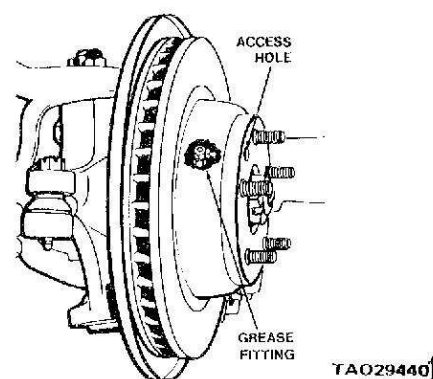

Figure 2-64. Aligning the Lube Fitting.
(13) Position the bearing retainer in the hub assembly so that the lube fitting is forward and aligns with the tie rod (figure 2-64).